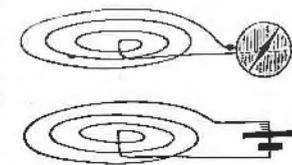

FIG. 200
(2) *Experiment* likewise with two flat coils, Fig. 200, one over the other or with copper wire coils, fastened to either wood, glass or slate. The force of the individual turns is added up. This contrivance serves also to demonstrate the induction or influence by means of the discharging spark of frictional electricity.